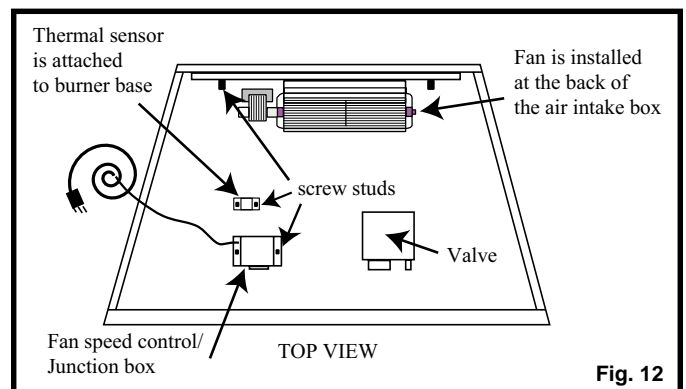

Fig. 12
5. Remove the fan mounting nuts (2 nuts). (Fig. 12)